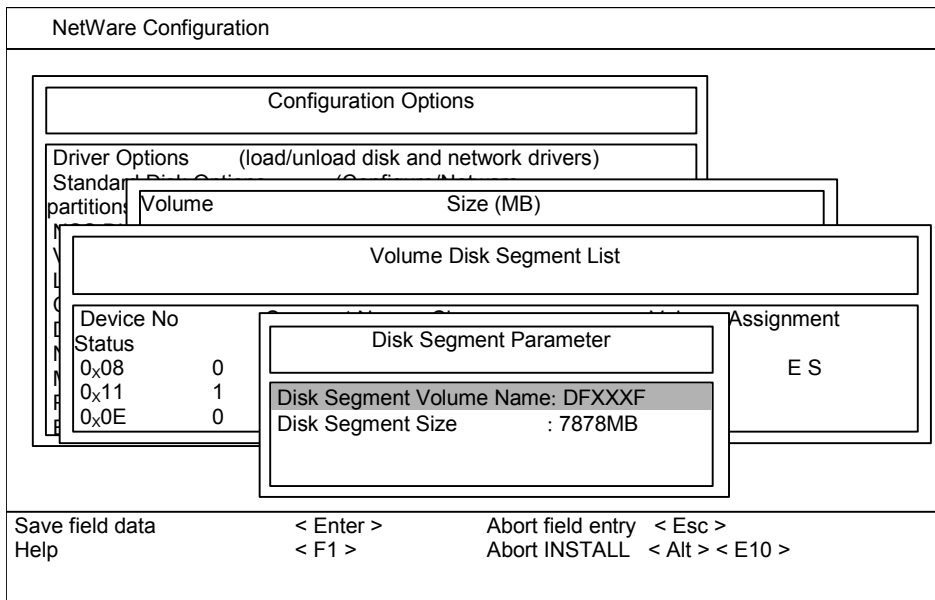

Figure 3.11 Entering the Disk Segment Parameters
6. On the Disk Segment Parameters screen, enter the new volume name (or verify the selected volume), and enter the disk segment size (see Figure 3.11). The segment size is the same as the partition size entered during disk partitioning (see step (8) in section 3.2).